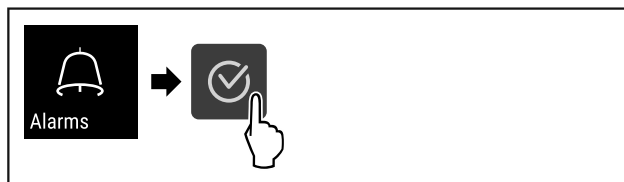

Fig. 119
- ▶ Complete steps (see Fig. 119).